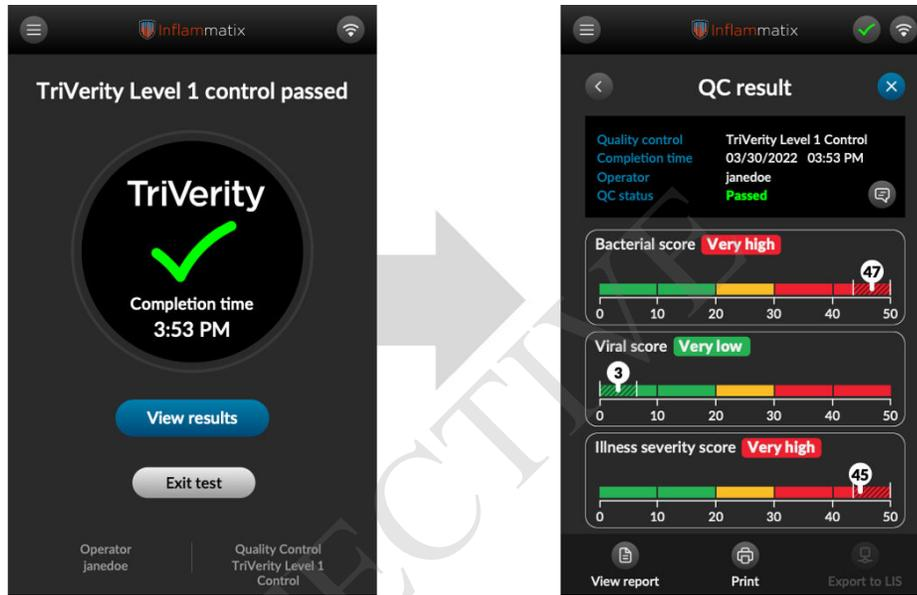

Figure 26
- A. If an external quality control passes, the sequence of screens in *Figure 26* will be displayed.
- B. Press the back arrow button in the upper-left corner to return to the Test Complete screen then press the EXIT TEST button (as shown in Figure 26).